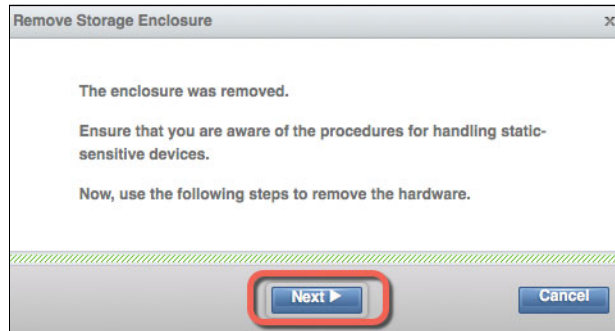

Figure 13-35 Remove storage enclosure
10. The storage enclosure is now removed from the system. The wizard (Figure 13-35) will lead you through deinstalling the storage enclosure.